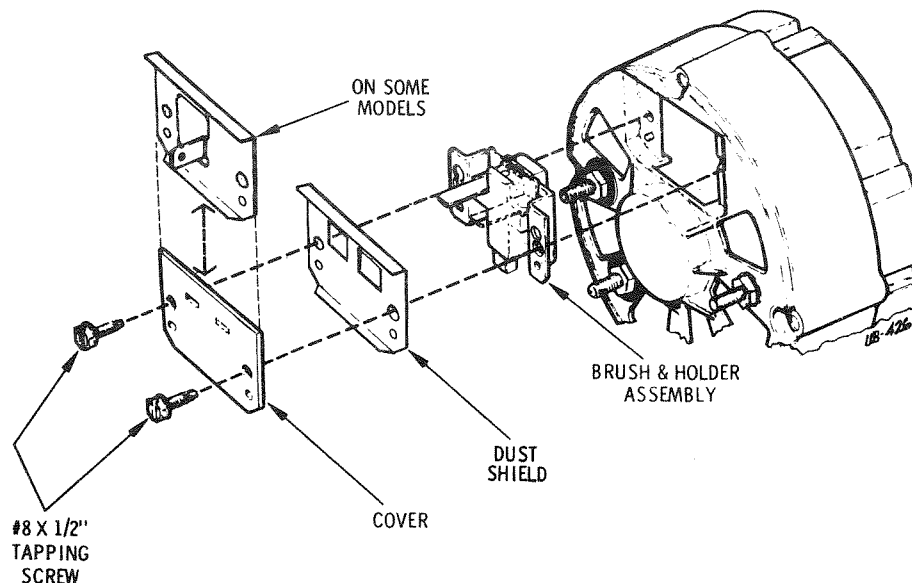

FIG. 4-4 BRUSH ASSEMBLY REMOVAL
REMOVE BRUSH ASSEMBLY — Mount the alternator in a vise, with the rear housing facing you. Remove Brush assembly. See Figure 4-4.
Remove the two (2) number 8-32 tapping screws, cover, and insulator (Figure 4-4). Pull brush assembly straight out, sufficient to clear the locating pins, then lift brush assembly out. (Procedure is the same for single and dual terminal brush assemblies).